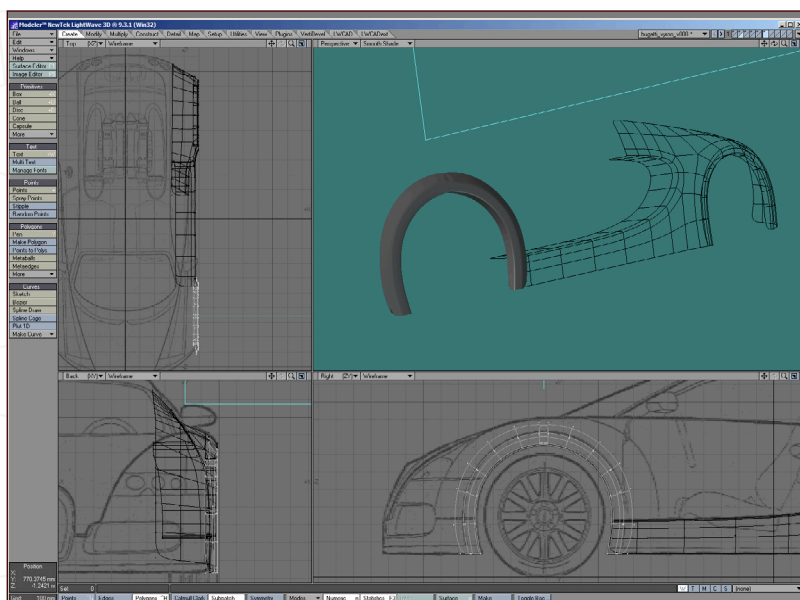

Fig 30
30. You will notice we have a small overlapping area of geometry. To fix this, I use a plug-in called New Dimensions 2, but I think Aligner serves a similar purpose. Essentially, what we need to do is select the points at the ends of the overlap for each half of the arch, and then align them in the Z axis. Another – very quick – method without using plug-ins, is as follows; with the points selected, use the scale tool with the mode set to "Selection", and then, holding down Control to lock the tool to the first axis of adjustment, scale in the Z axis to zero (Fig30).